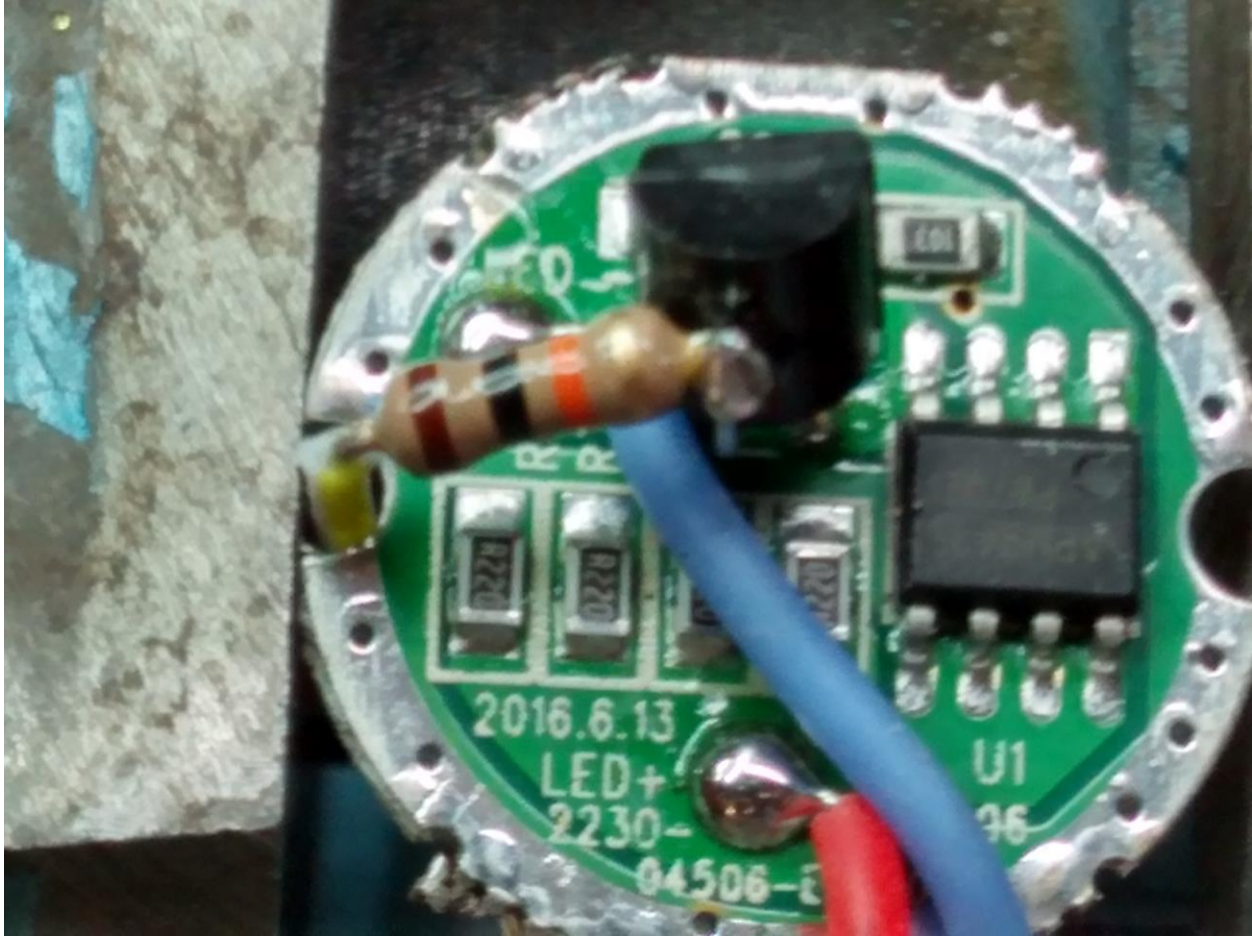

Figure 6 2N2222 & 10 k Resistor Added
-Mount a plastic case 2N2222 as shown in figure 6, with the base lead but up behind it for attachment to R3 a 10 k resistor leading to the outside driver.